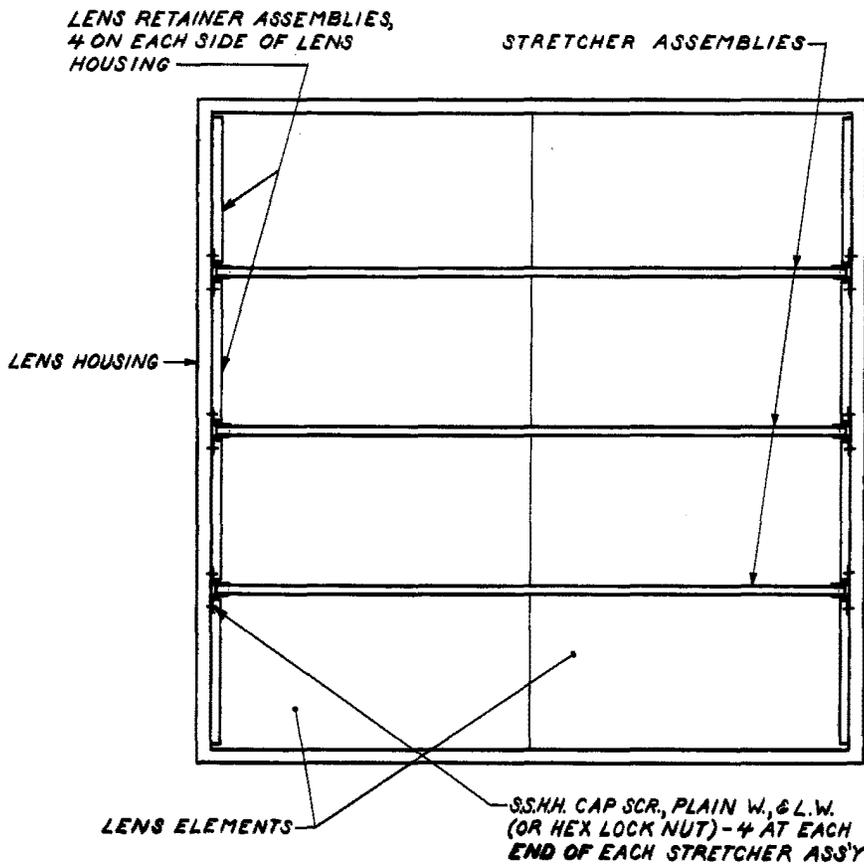

Fig. 2 - Weather Cover Supports
**3.01** Remove the three 1- by 3-inch stretcher bars from the mouth of the antenna by removing the 5/16 -18 by 1-inch stainless steel HH cap screws which are equipped with plain washers and lock washers (see Fig. 2).
**3.02** Remove the stainless steel HH cap screws, which are equipped with plain washers and lock washers (or self-locking nuts), that secure the lens retainer assemblies to the sides of the antenna mouth (see Fig. 2).